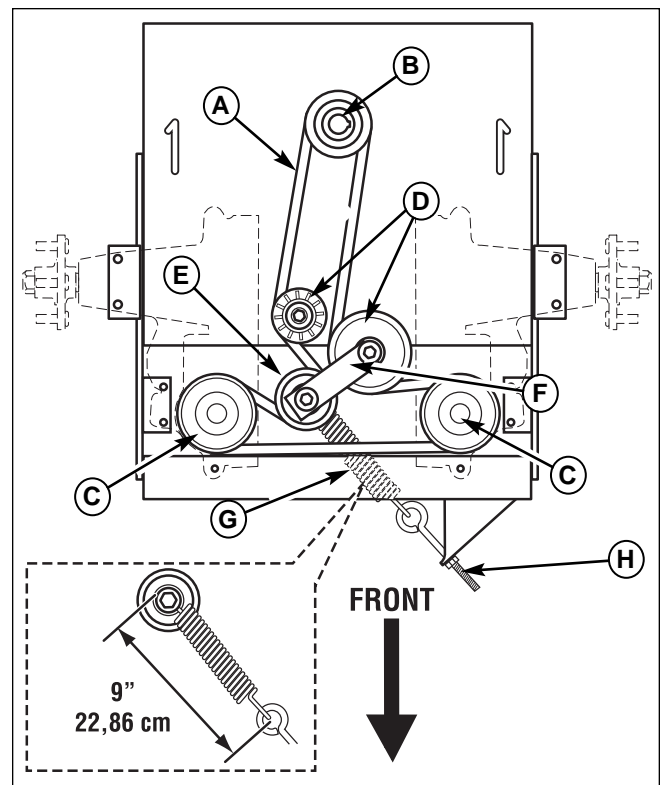

Figure 46. Hydraulic Pump Drive Belt Replacement
3. Break the jam nut, that is located towards the rear of the machine on the spring anchor hook, loose. Loosen the nut towards the front of the machine on the spring anchor hook (H, Figure 46) to release the majority of the belt tension. Use caution and remove the nut to completely release the tension.
5. Reinstall the anchor hook (H) into the anchor tab and loosely fasten the nut. Adjust the spring until a measurement of 9" (22,86cm) is achieved from the outside of the spring hooks. Tighten the jam nut.